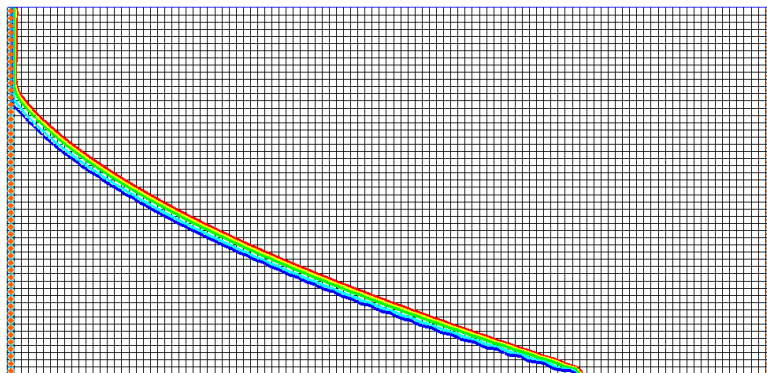

Figure 7 Time step 12 (after 55 minutes)
4. Select time step 12 (value of “55.0”) in the time step window (Figure 7).